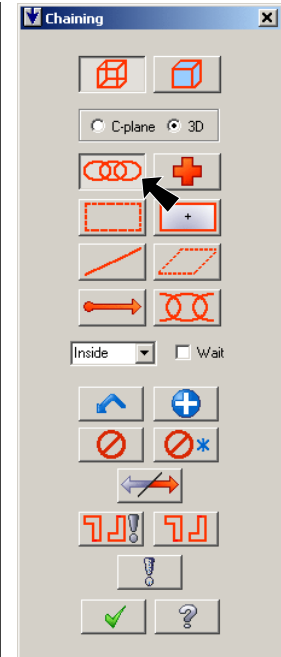

Fig. 42
Step 4. Select **Chain**  in Chaining dialog box, **Fig. 42**.